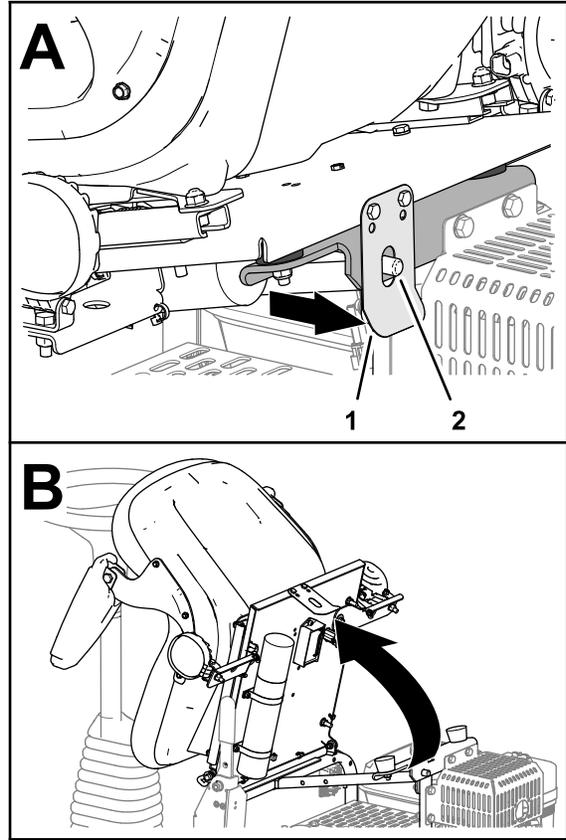

Figure 23
1. Pull back the seat latch until it clears the seat-latch pin (Figure 23).
2. Tilt the seat forward (Figure 23).